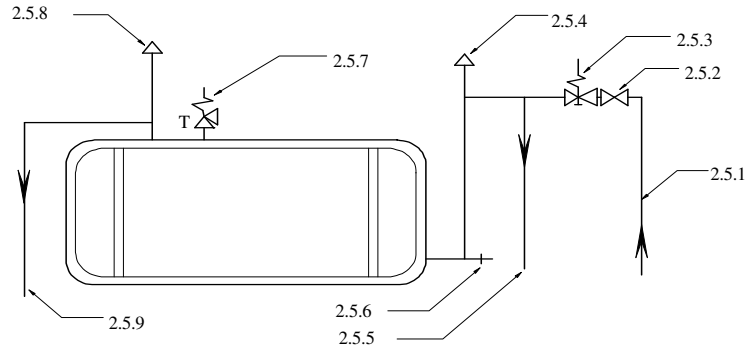

FIGURE 1
- 2.5 FIGURE 1, ANNEXURE A (attached) shows a diagrammatic layout of a horizontal high-pressure geyser installation. Write the name of each component next to the question number (2.5.1 – 2.5.9) in the ANSWER BOOK. (9)